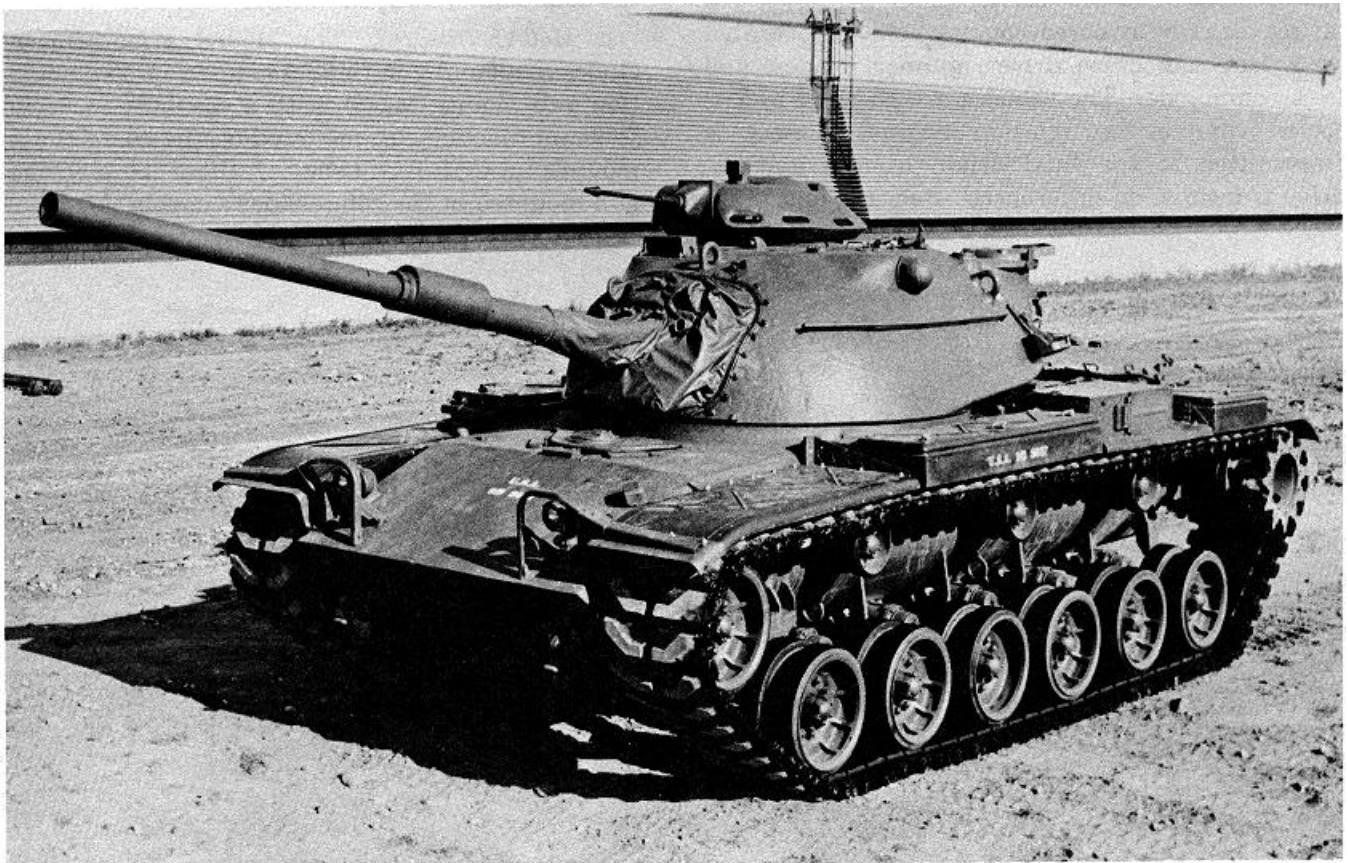

Figure 2-1. Tank, combat, full-tracked, 105-mm-gun, M60.
b. *M60 (fig 2-1).* The M60 armament includes a 105-mm gun (M68) mounted in a combination gun mount (M116), with a coaxially mounted 7.62mm machine gun mounted on the combination gun mount, and a caliber .50 machine gun mounted in the commander's cupola (M19).